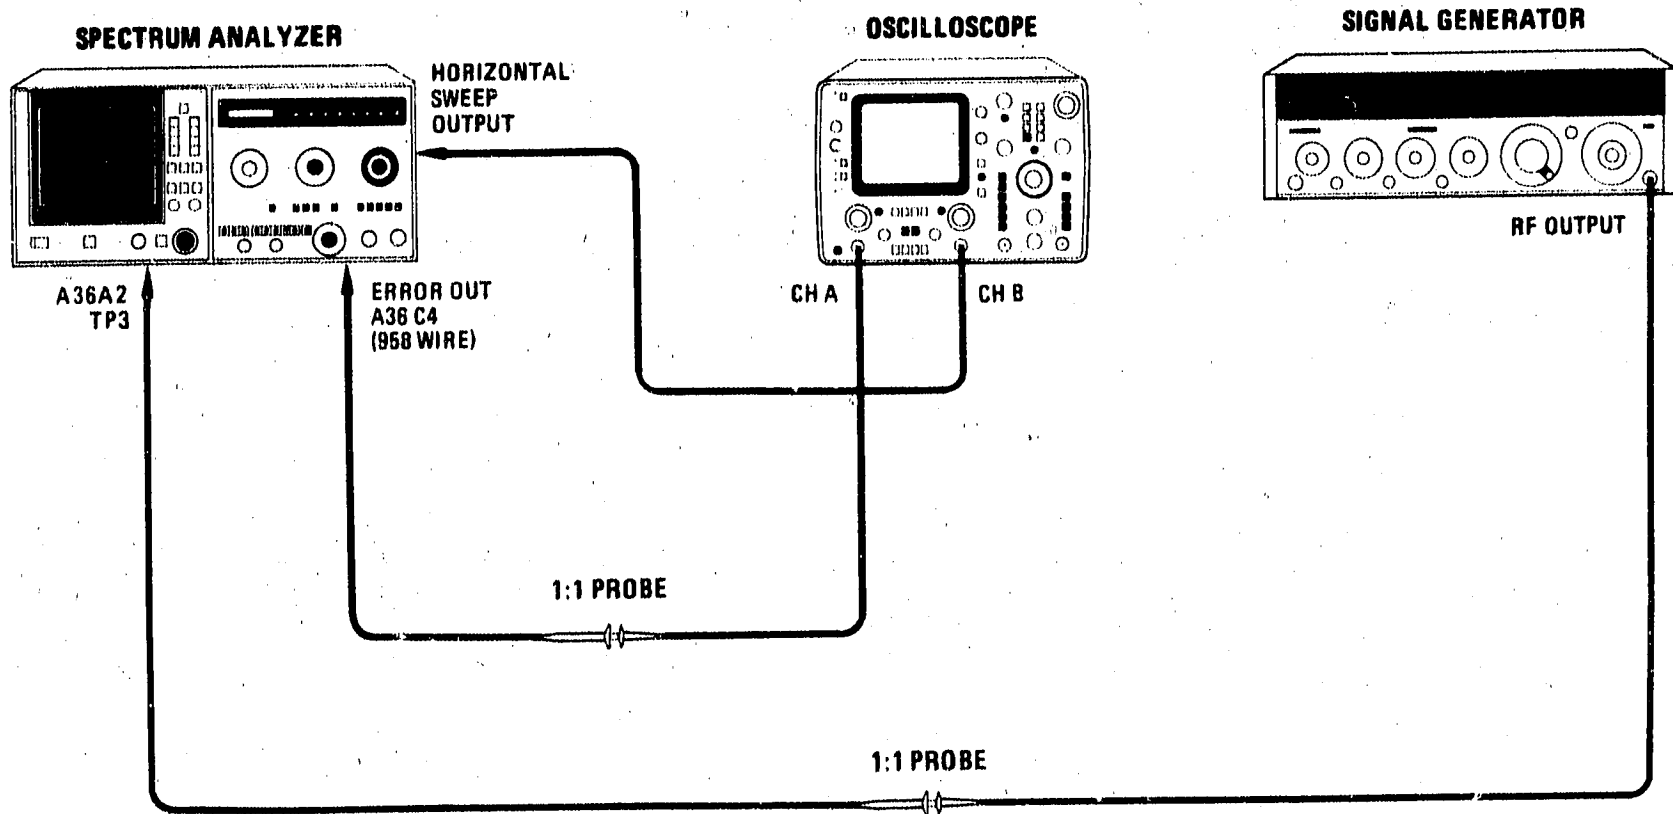

Figure 5-45. Tuning Stabilizer VCXO Check and Adjustment Test Setup
16. Connect equipment as shown in Figure 5-45 and set oscilloscope for an externally swept (A VS B), DC coupled display. Set CHAN A to 10 mV/DIV and CHAN B to 1V/DIV. Set all normal (green) spectrum analyzer settings, except as indicated, and other controls as follows: